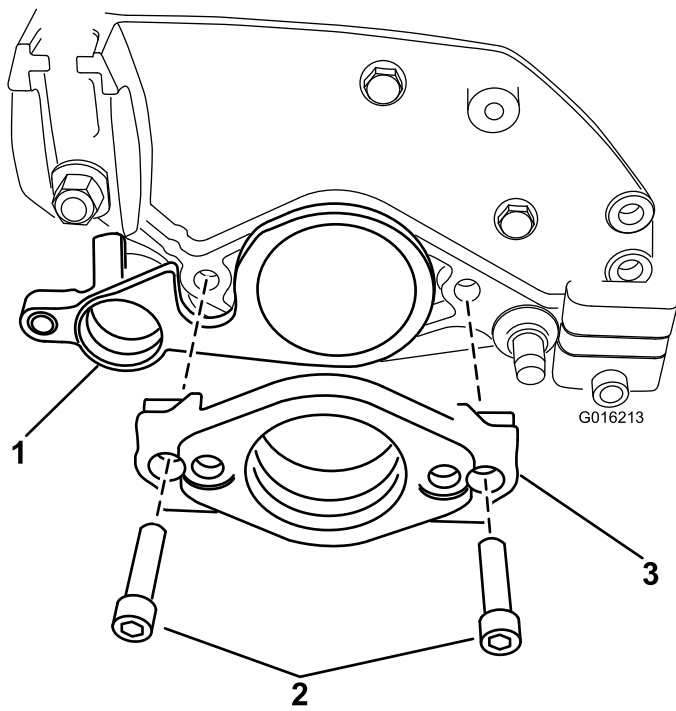

Figure 7
17. Insert the other end of the groomer shaft into the left-hand side-plate bearing support (Figure 7).
18. Insert the motor mount onto the side plate. Secure the motor mount and side plate to the left end of the cutting unit with 2 previously removed socket head bolts and nuts (Figure 7).